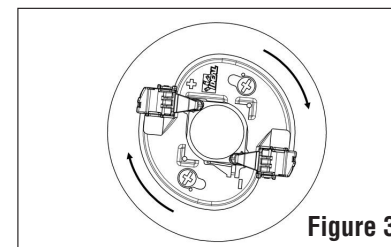

Figure 3
- Insert holder/array assembly over screws through keyways (Figure 3) and rotate holder clockwise (Except 50-2234C/50-2204CT).